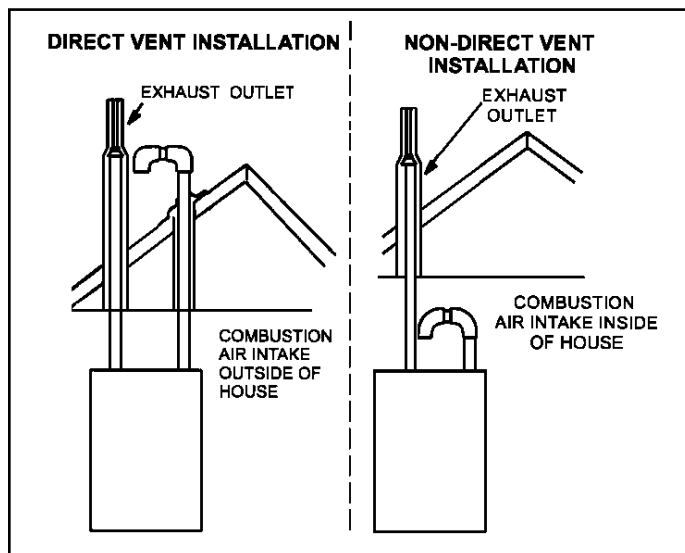
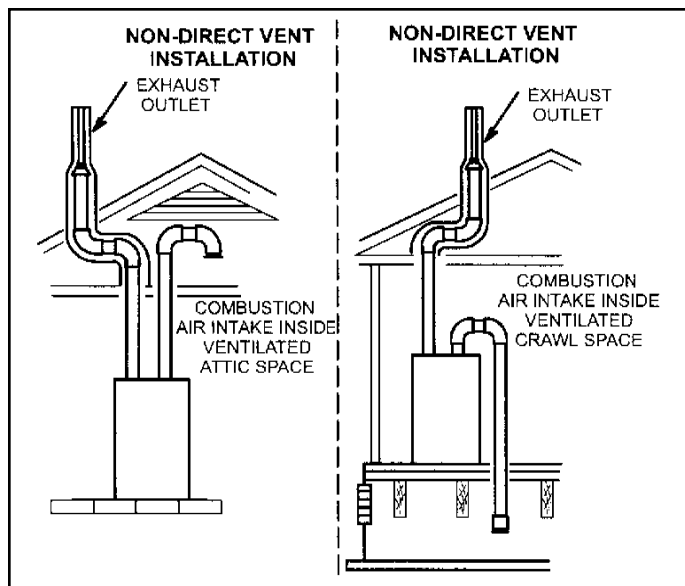

Figure 2.
Figure 3.
**NOTE:** In Direct Vent installations, combustion air is taken from outdoors and flue gases are discharged outdoors. Non-Direct Vent installations, combustion air is taken from indoors or ventilated attic or crawl space and flue gases are discharged outdoors. See Figure 2 and Figure 3 for application involving roof termination.